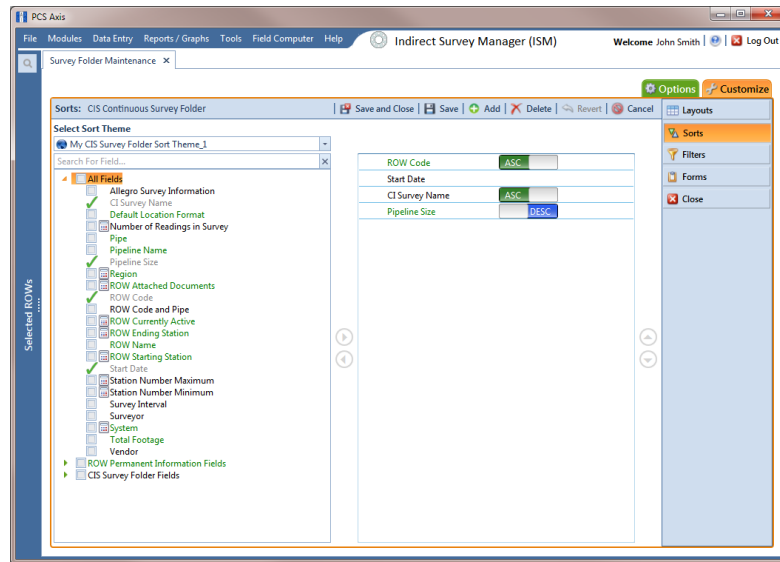

Figure 6-16. Sort Theme
- 9 Click  **OK** to save changes and return to the *Sorts* page (Figure 6-16, page 210).